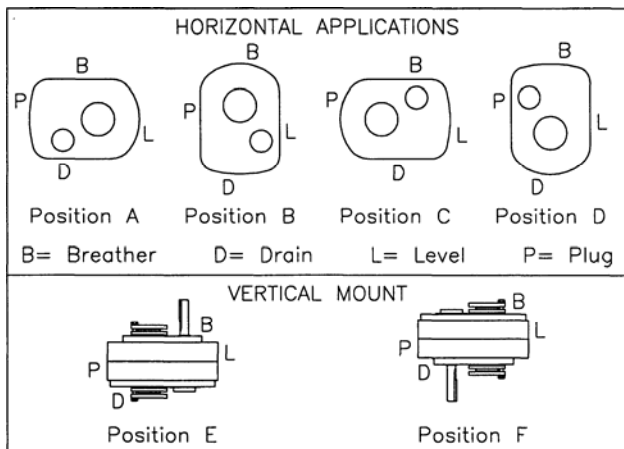

Fig. 1 - Mounting Positions
2. Determine the running positions of the reducer. (See Fig. 1) Note that the reducer is supplied with either 4 or 7 plugs; 4 around the sides for horizontal installations and 1 on each face for vertical installations. These plugs must be arranged relative to the running positions as follows:
The running position of the reducer in a horizontal application is not limited to the four positions shown in Fig. 1. However, if running position is over 20° in position "B" & "D" or 5° in position "A" & "C", either way from sketches, the oil level plug cannot be used safely to check the oil level, unless during the checking, the torque arm is disconnected and the reducer is swung to within 20° for position "A" & "C" or 5° for position "B" & "D" of the positions shown in Fig. 1. Because of the many possible positions of the reducer, it may be necessary or desirable to make special adaptations using the lubrication filling holes furnished along with other standard pipe fittings, stand pipes and oil level gauges as required.
† Refer to Figure 1 on page 2 for mounting positions.
Note: If reducer position is to vary from those shown in figure 1, either more or less oil may be required. Consult Dodge.